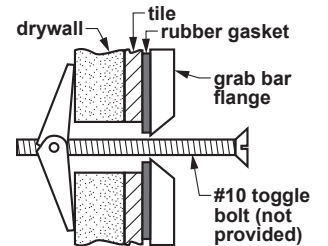

Figure 4:
- c. **Toggle bolt mount (no wood stud) on tile or untiled wall:** See figure 4. Drill 1/2" diameter through outer wall or tile and drywall with masonry bit.